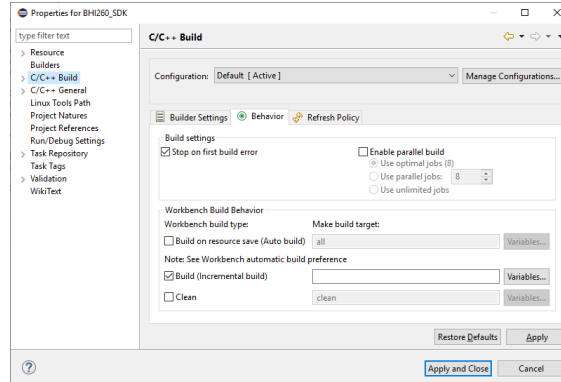

Figure 10 Project Properties Behavior
- Then click “Behavior” tab and make the configurations as shown in Figure 10.